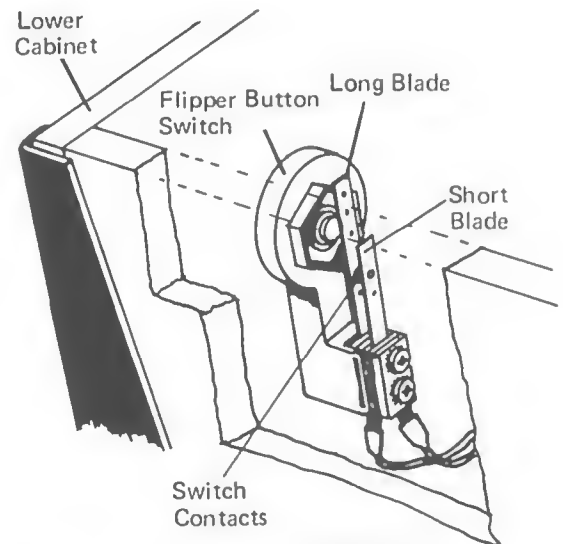

FIGURE 3
13. Adjust the flipper button switch: (See Figure 3.) Gently bend long blade of switch until it is straight. Gently bend short blade so that the contacts are approximately .060 inch apart. Depress the flipper button to make sure that the flipper button moves the long blade sufficient to contact the short blade.